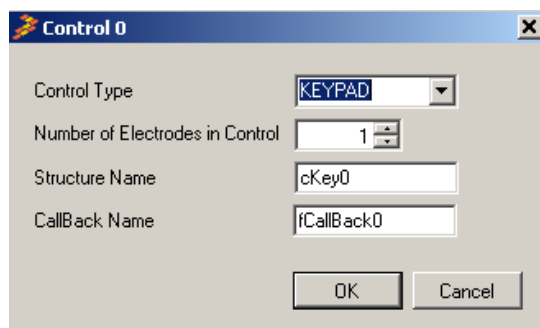

Figure 13. Control 0—Control Properties
4. The last step is to define the control properties. Accomplish this by clicking the **Control** icon: . This brings up the following window. See Figure 13.